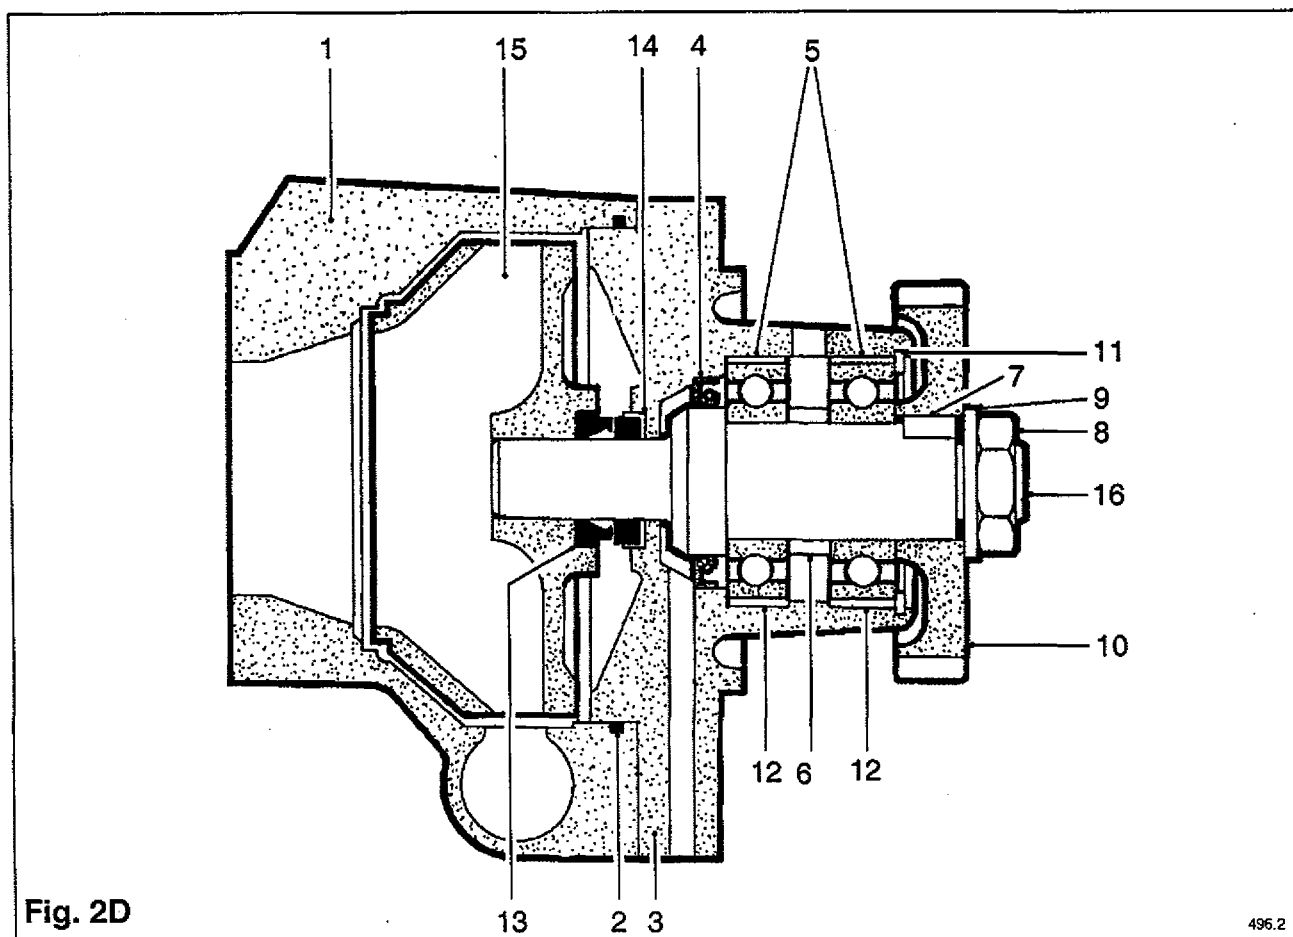

Fig. 2D
Ensure that all joint faces are clean and free from old jointing material and that a new 'o' ring (2) (see **Fig. 2D**) is fitted in the recess in the bearing housing, lubricate with soft soap or petroleum jelly and fit the pump body making sure it seats evenly. Coat the drive gear with clean engine oil refit in reverse order using a new joint between the pump casing and gearcase.
A press capable of exerting a force of at least 5 tonne is required to remove and fit the impeller. See **Fig. 2D**.
Key (Fig. 2D)